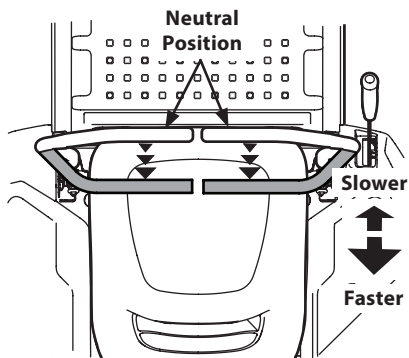

Figure 3-7
- Slowly and evenly move both drive control levers rearward. The tractor will start to move in the reverse direction. See Figure 3-7.